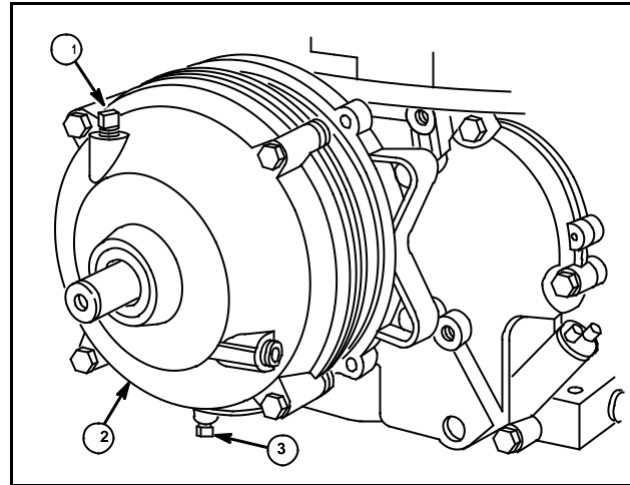

Fig. 33
2. Remove drain plug (3) from bottom of cover assembly (2).
3. After gear case is drained, loosen and remove four cap screws and cover, Fig. 33.